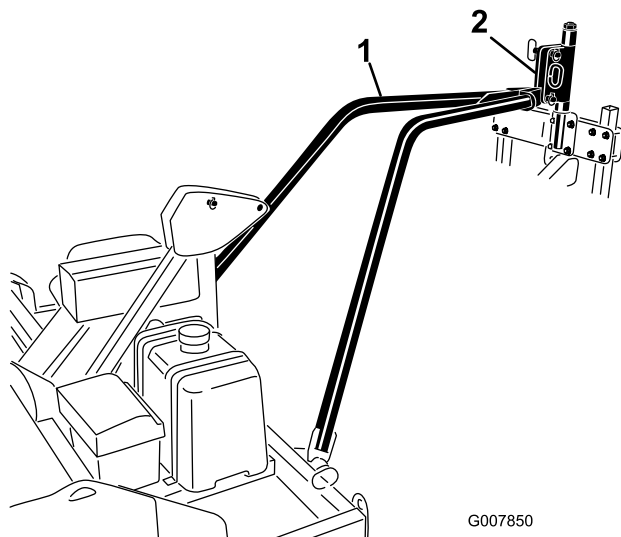

Figure 13
- 4. Remove the tie down or rope and lower the tow arm hitch plate into the aerator hitch pivot (Figure 13).